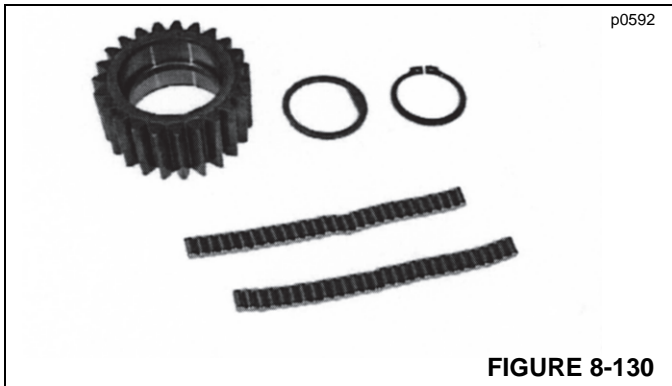

FIGURE 8-130
1. Gather all the components of the epicyclic planetary gear assembly (Figure 8-130). Be careful not to loose any of the rollers.